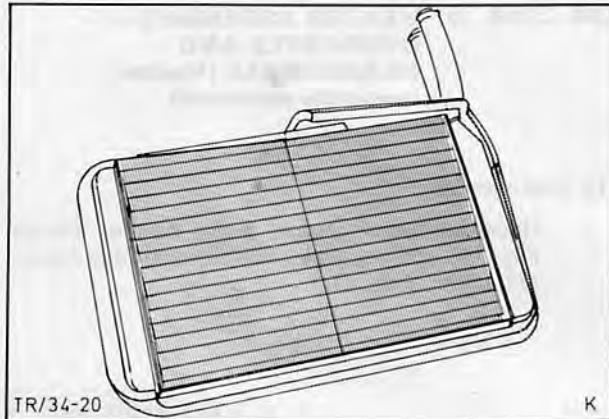

Fig. 22. Renew foam gasket, if necessary
4. Install heater radiator in housing, renewing foam gasket if necessary, Figs. 22 and 23.